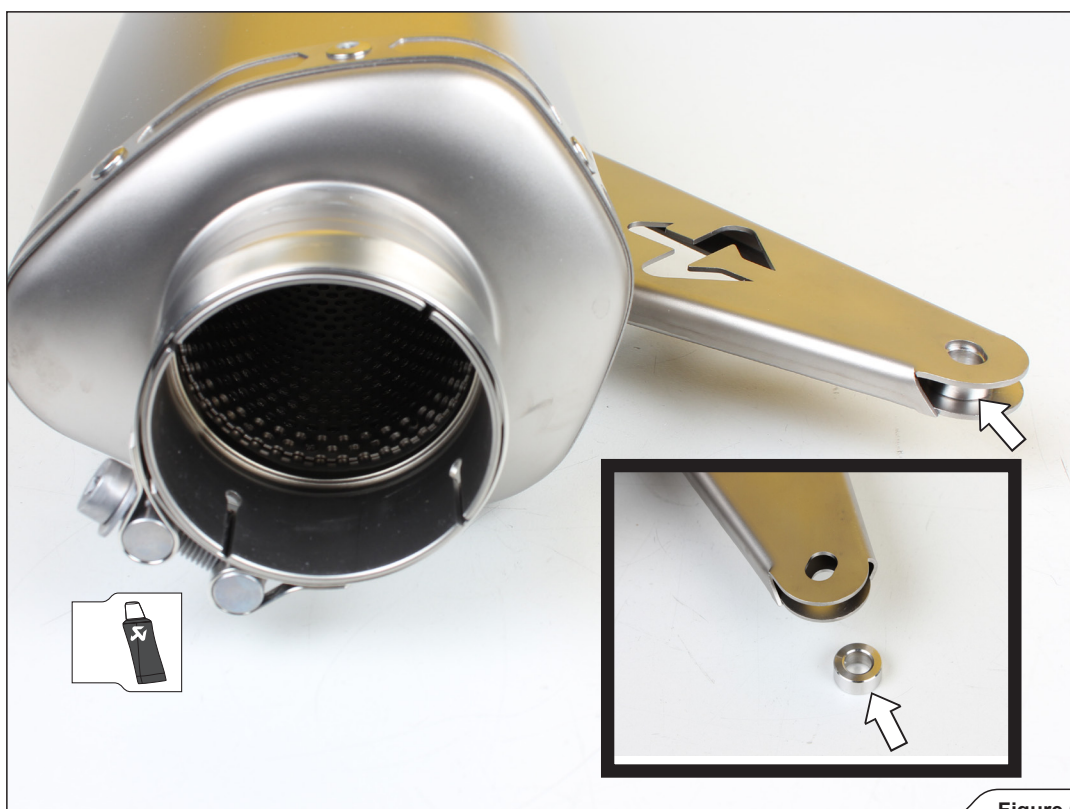

Figure 6
2. Assemble the clamp onto the muffler's inlet and distance washer into the bracket, as shown (Figure 6).